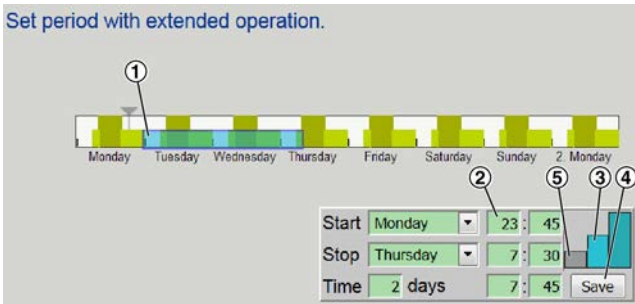

Fig. 48: Setting extended operation
The 'Extended operation' (Fig. 48) screen allows you to override the fan speed set in the current weekly program. Override automatically starts and stops at the times you set here. The maximum override period is 7 days.
2. ▶ Click on the white area within the week view (Fig. 48/1).
3. ▶ Set the start and stop times (Fig. 48/2) for extended operation.
4. ▶ Click the light-blue rectangle for a low fan speed or the dark-blue rectangle for a high fan speed (Fig. 48/3).
5. ▶ Click on 'Save' (Fig. 48/4).
To end extended operation, click on the grey rectangle (Fig. 48/5).